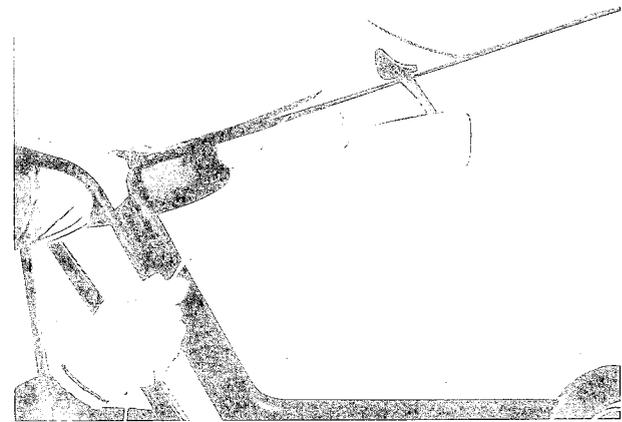

Fig. 14-4 Installing windshield glass
5. Pull the string so as to place the inner lip over the flange as shown in Fig. 14-4. At the same, tap the glass from the outside to settle it into position.